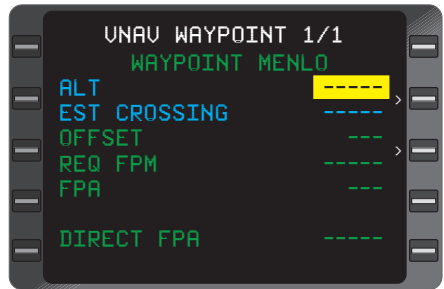

Figure 3-122
3. **VNAV Key** - DEPRESS to display **VNAV WAYPOINT** Page for selected waypoint. (Figure 3-122)